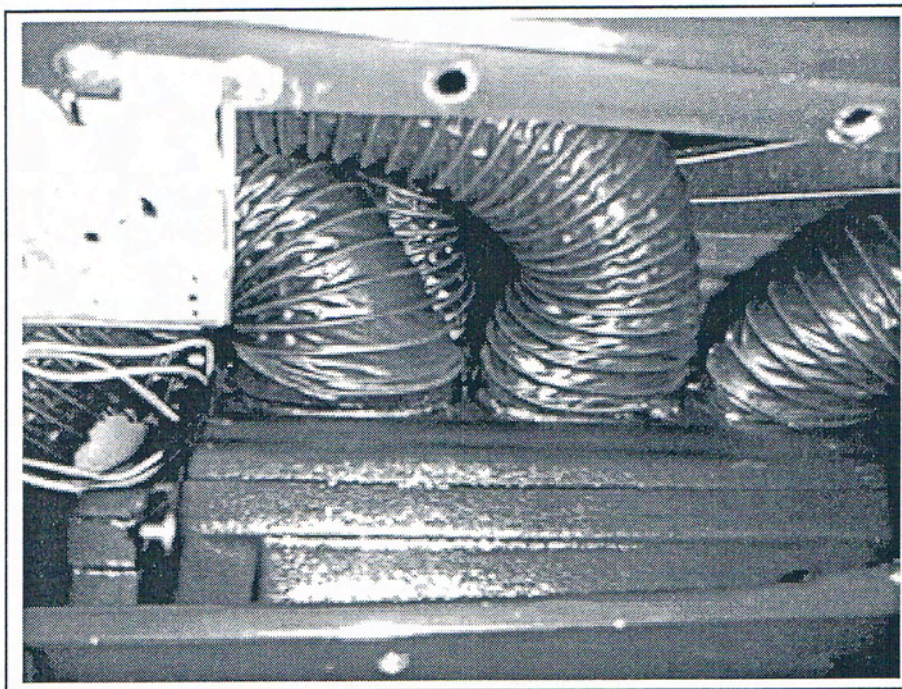

FIGURE 10
31. Secure the 2" defrost duct hoses and the 2-1/2" louver duct hoses to the evaporator. (FIGURE 10)